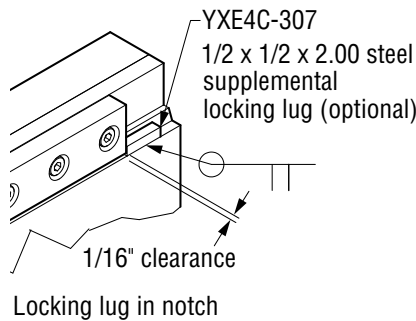

Figure 4-3, Locking Lug
8. Weld on the supplemental locking lug that is supplied with the attachment, (two pieces of 1/2 x 1/2 x 2.00 steel included with the attachment) with either E-6011 or E-6013 welding rod, or equivalent, on each side of the truck carriage. (Figure 4-3)